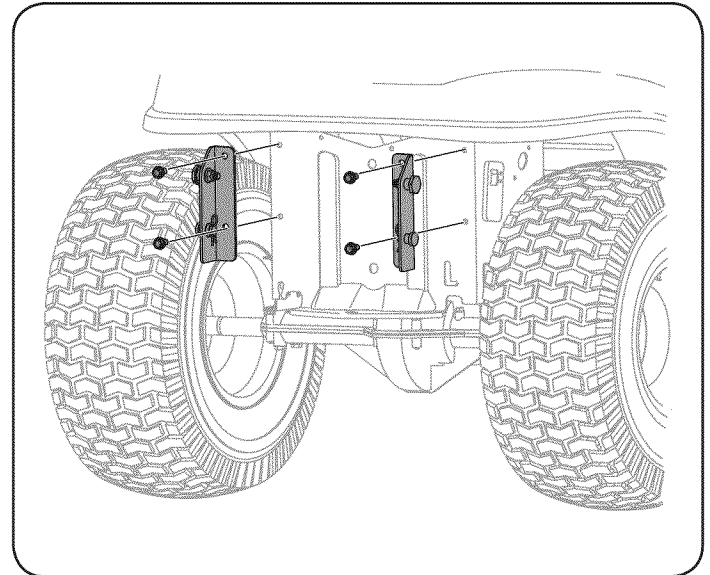

Figure 2
3. Mount the brackets to your tractor using four self-tapping hex screws included with your kit. See Fig. 2.